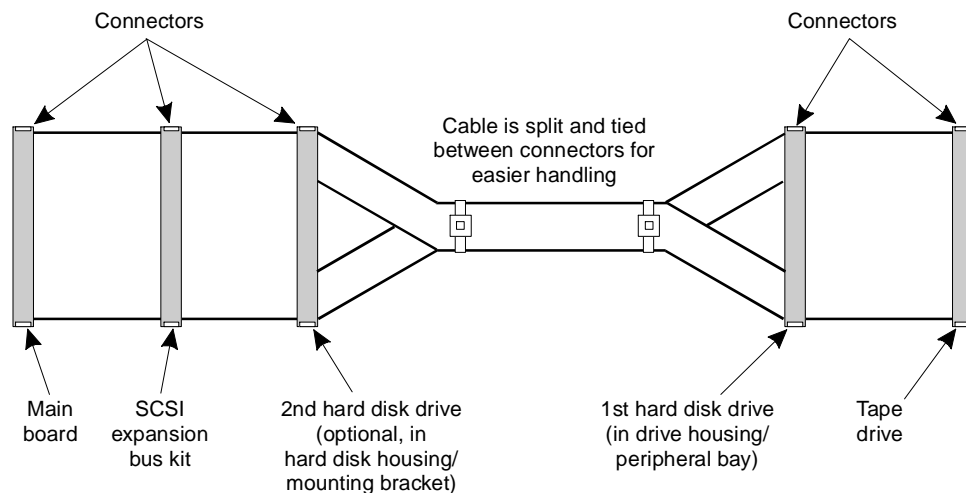

Figure C-11. SCSI Cable with Labeled Connectors
- f. Connect the end of the SCSI cable farthest from the drive housing or peripheral bay to the connector marked SCSI as shown in Figure C-11.